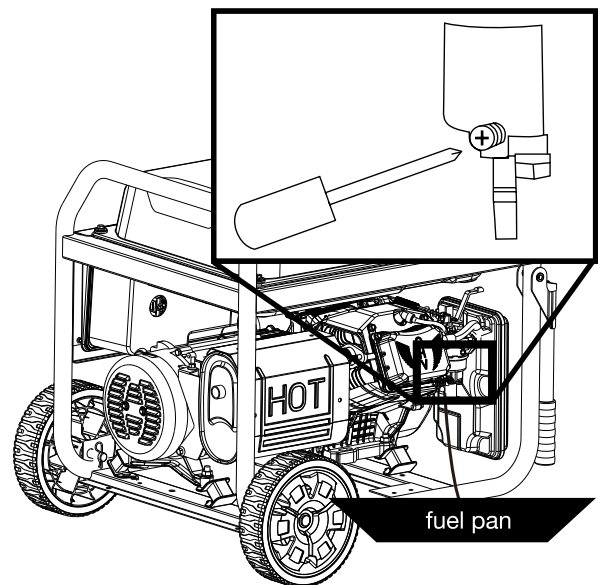

Figure 12: Loosen float bowl screw
3. Loosen the float bowl drain screw (see Figure 12) until fuel is seen draining from the float bowl.